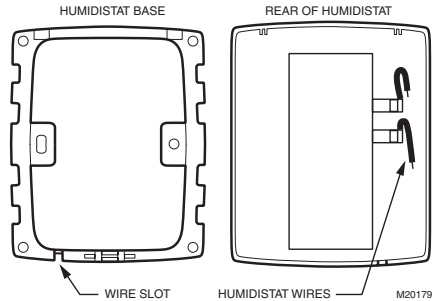

Fig. 11. Humidistat base and rear view.
7. Connect the low-voltage wires to the leads and replace the H8908 case. See Fig. 11.